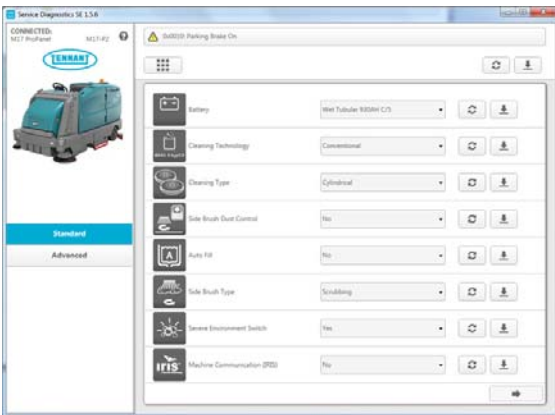

FIG. 17
- Carefully select the correct installed options on the machine (Fig. 17). This may require visually inspecting the machine to confirm all installed options. Press the arrow button to advance to next screen.